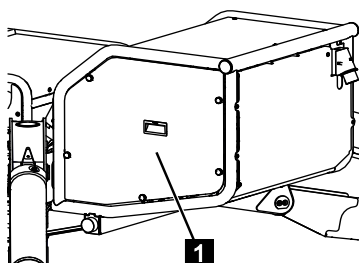

Fig. 206
1. Unscrew and remove the cover (Fig.206/1).